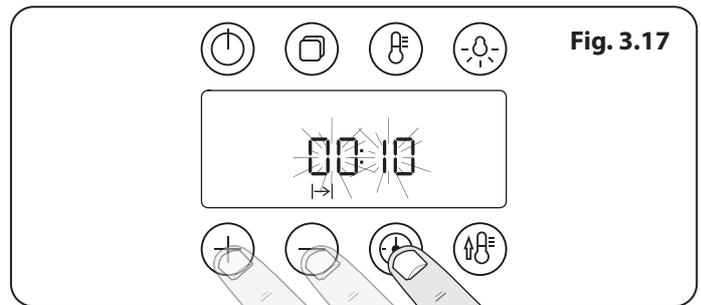

Fig. 3.17
- Touch and hold the 'timer' button until the cook period symbol [▶] is displayed (Fig. 3.17). Set the hours using the [+] or [-] buttons.
- Touch and hold the 'timer' button until the cook period symbol [▶] is displayed. Set the hours using the [+] or [-] buttons. Tap the timer button again to set the minutes using the [+] or [-] buttons (Fig. 3.17).